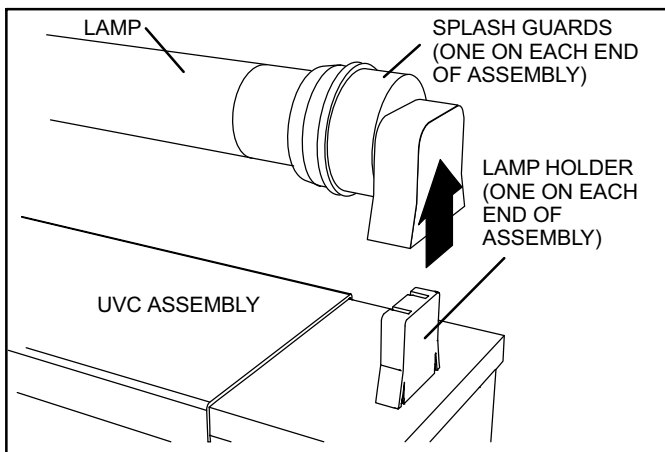

Figure 5. Remove Lamp
- a) Pull blower deck slightly more than half way out of unit. Lamp 1 can be installed or serviced without removing the entire assembly. Carefully remove the lamp from top back UVC lamp 1 assembly and remove splash guards from lamp holders on first time installation. Remove splash guards and lamp from each of the lamp holders when servicing (see figure 5).